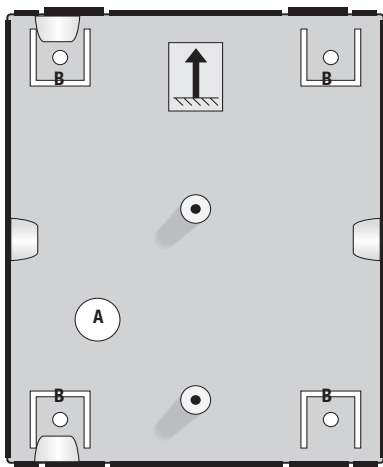

fig.1: flush mounting box 10-200-04 with indication of top side
Enter the connection cable through the opening provided (A) in the flush mounting box. Place the flush mounting box in the desired position on the wall at a height depending on the application (table 1) by means of screws (B). Make sure that the correct side of the flush mounting box points upwards (fig.1), so that the two mounting holes in the external unit are located right across the screw connections in the flush mounting box.